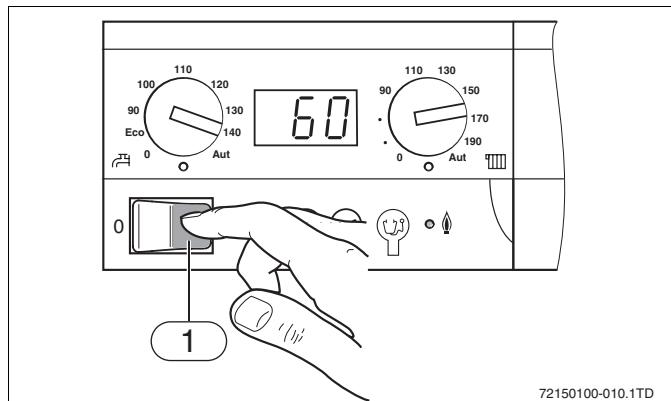

Fig. 11
- ▶ Switch on the heating system by setting the main switch to position "1" (see fig. 11, page 11).
- ▶ Switch on the heating system using the main switch (→ fig. 11).